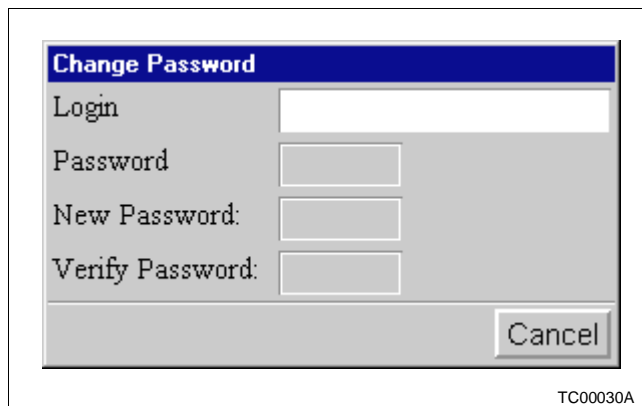

Figure 3-3. Change Password Window
5. Click on *Change Password* in the *Security* menu. The *Change Password* window (Figure 3-3) appears.